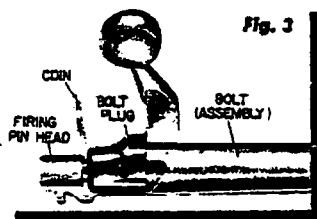

Fig. 3
**TO DISASSEMBLE BOLT PARTS** — Pull bolt from rifle. Pull firing pin head back until coin or similar piece can be inserted (Fig. 3). Hold bolt handle and turn bolt plug until entire firing pin assembly can be pulled from bolt assembly. Re-assemble in reverse order.